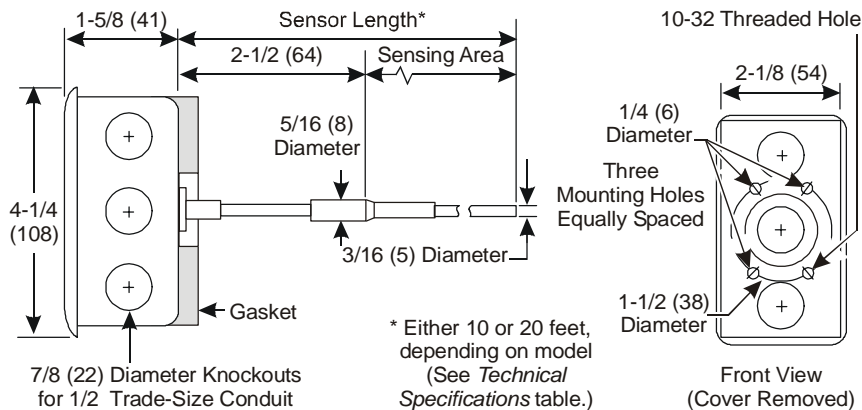
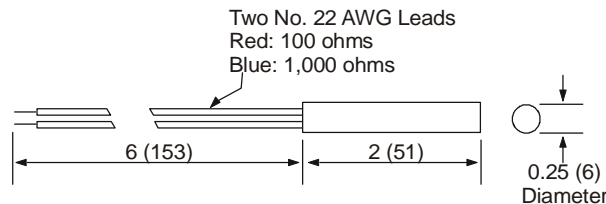
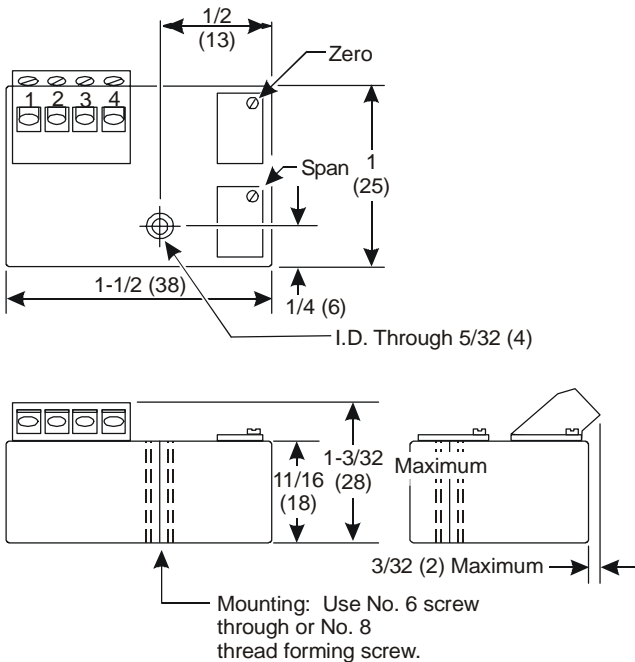
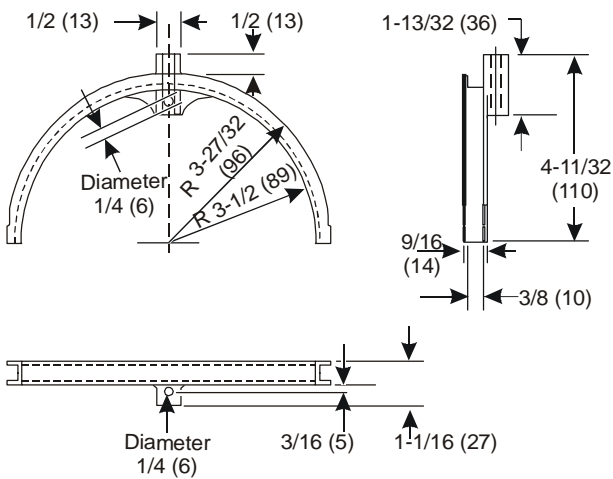

Figure 1: TEA Series Averaging Sensor Dimensions, in. (mm)
Figure 2: TEP Series Probe Sensor Dimensions, in. (mm)
Figure 3: TQ-6000-1 Transmitter Dimensions, in. (mm)
Figure 4: TE-6001-8 Temperature Element Holder Dimensions, in. (mm)
See Figure 1, Figure 2, Figure 3, and Figure 4 for temperature sensor and accessory dimensions.
To mount the TEA averaging sensor/hardware assemblies, see the following instructions and Figure 1.
8. Use the two (included) optional TE-6001-8 Mounting Brackets (or some other means of securing the sensor) with the averaging sensors, as required, to support the averaging element. (See Figure 4.)